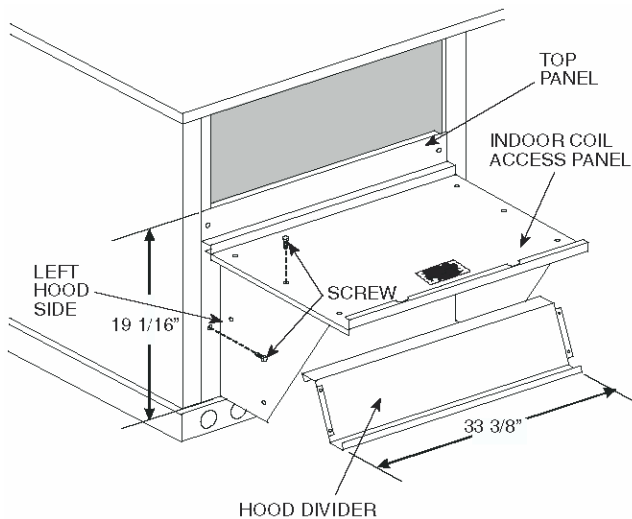

FIGURE 20 Filter Installation
- Open the filter clips which are located underneath the hood top. Insert the aluminum filter into the bottom filter rack (hood divider). Push the filter into position past the open filter clips. Close the filter clips to lock the filter into place. See Fig. 20.